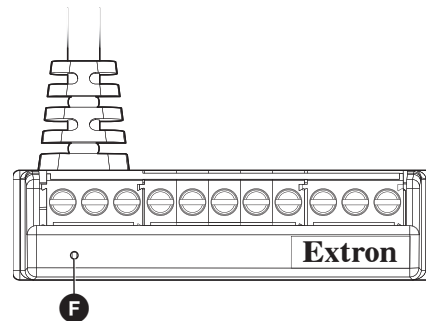

Figure 3. TLCA 2 Adapter — Front View
- F Power LED indicator** (see figure 3 on page 1) — Provides the power status of the adapter